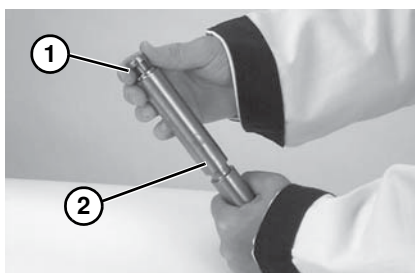

Figure 71
2. Slide bearing (part # 240338) (**Figure 71, item 1**) onto spindle (**Figure 71, item 2**).